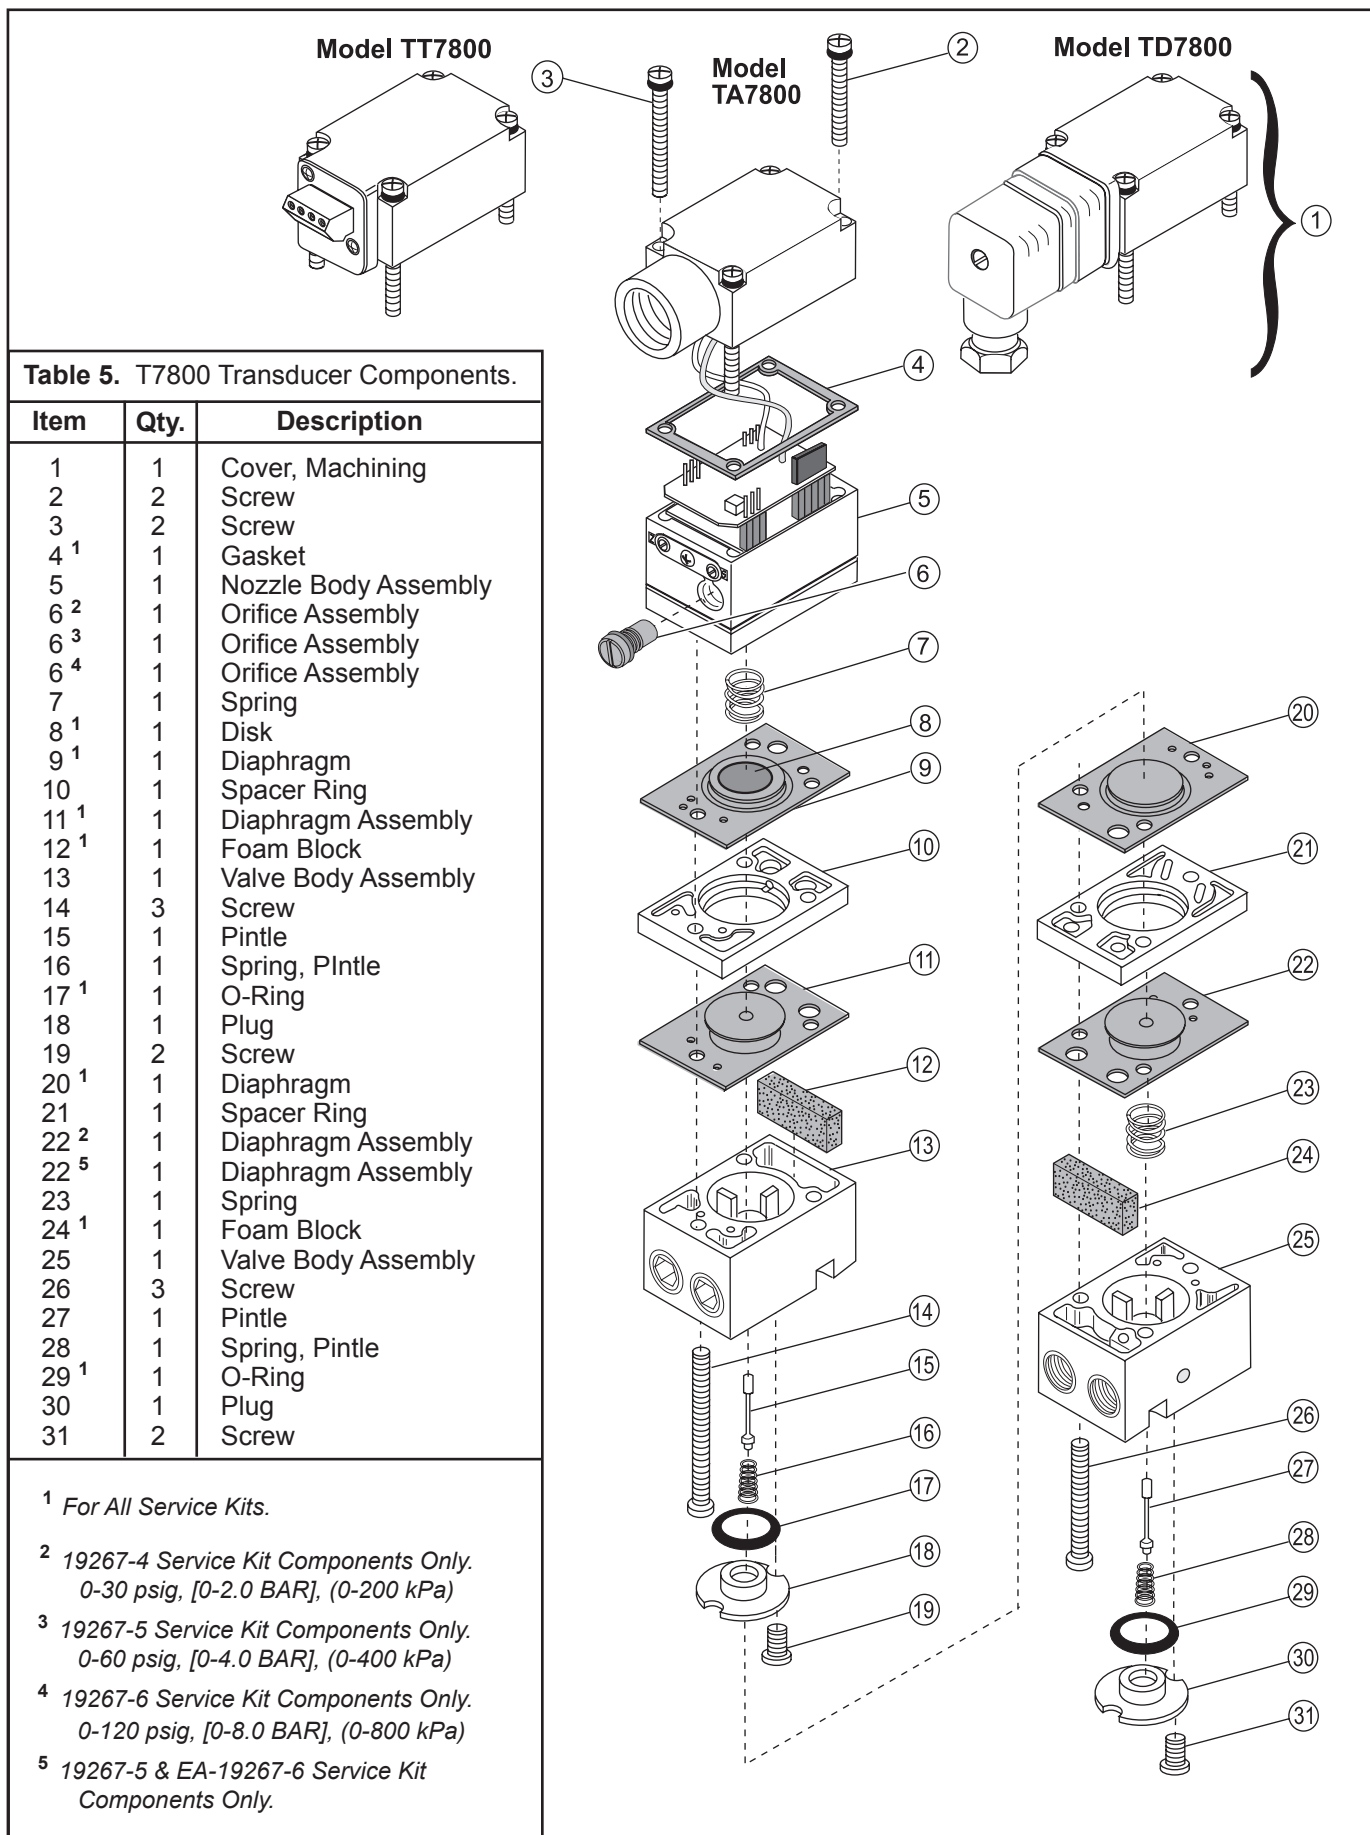

Figure 11. Exploded Drawing.
2. Remove the Orifice Assembly (6) from the unit. For more detailed information see Figure 11. "Exploded Drawing" on page 6.